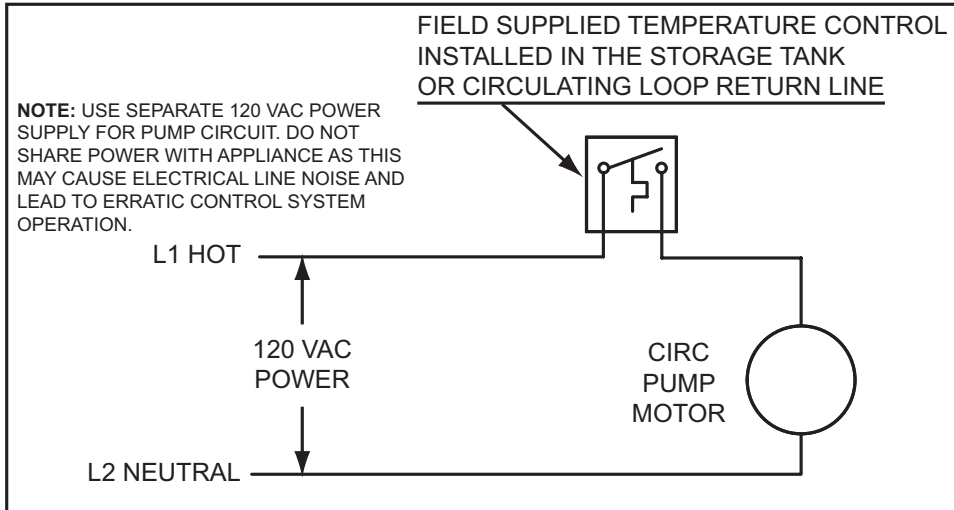

Figure 63
6. If a pump is being installed between a water heater and storage tank or on a building recirculation loop wire according to Figure 63 on page 67.